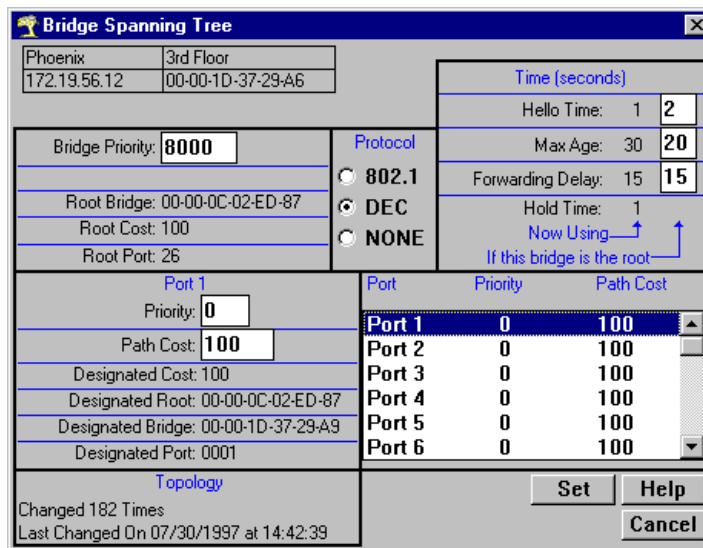

Figure 5-4. Bridge Spanning Tree Window
2. Click on **Spanning Tree....** The Bridge Spanning Tree window, Figure 5-4, will appear.